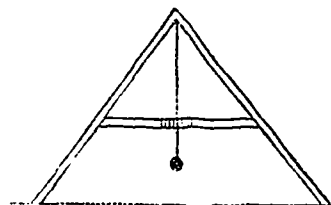

Fig. 6.
5. Ditches should never be less than two and a half feet deep in the hardest ground, and three feet is better. (2) They will vary somewhat with unevenness of surface.
6. There must be a constant descent of the bottom, which may be graded by the use of the simple instrument shown in fig. 6, the two legs of which are set in the bottom of the ditch